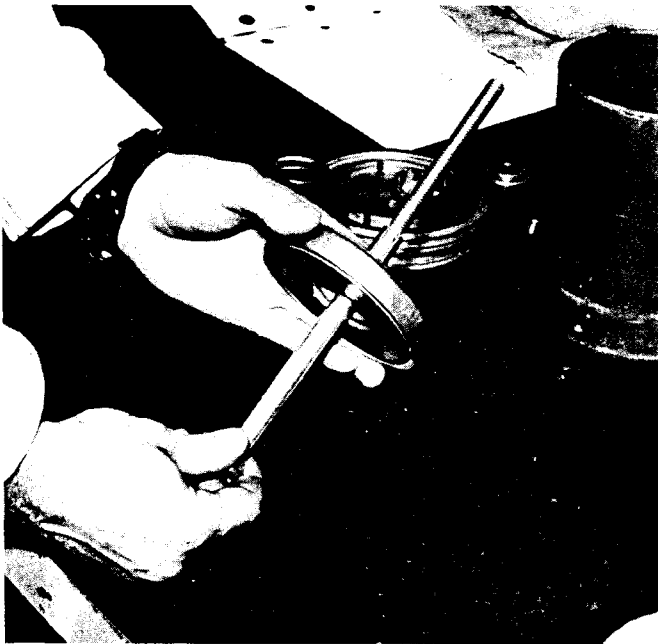

Figure 9
2. Slide oil separator filter over the cartridge bolt with the gasket surface next to the shell. (See Figure 9)